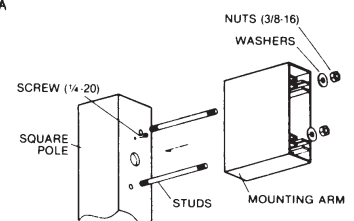
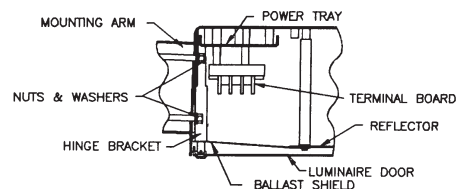

Figure 2
Figure 3
1. Install nut plate (see Figure 2) inside pre-drilled pole. Secure with screw provided.
2. Install two (2) studs ensuring full penetration of nuts on nut plate.
5. Install luminaire and secure with flat washers and locknuts provided (See Figure 3). Align as nuts tightened.